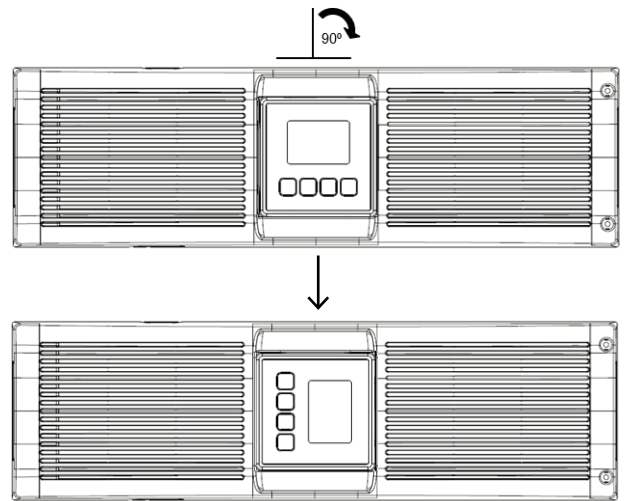

Figure 4: Display rotation
1. Carefully rotate the LCD control panel 90° to the right in the UPS and in the battery modules as shown in Figure 4.